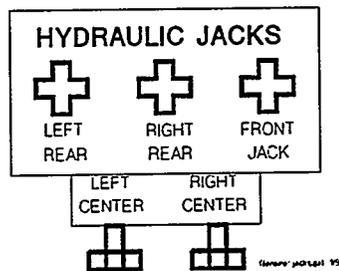

Figure 6) Leveling Controls.
The sample truck is raised by three (3) hydraulic rams located at both ends of the truck and is leveled using portable hand levels. Two additional rams, located on each side of the truck are used to stabilize the truck during platform rotation. The hydraulic controls associated with leveling are the 4-way manual control valve and the turn valves which control flow to each of the jacks (see Figure 6 below).
- OP/CE ___/___ 7.3.4 **LOWER** the front and rear lifting jacks to the ground using the control valves. (See Figure 6)
- OP/CE ___/___ 7.3.6 **ENSURE** that the HYDRAULIC JACK control valves are closed. (See Figure 6)